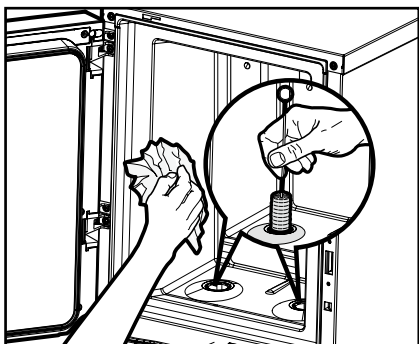

Fig. 21
4. Clean the interior of the cooling compartment (fig. 21):